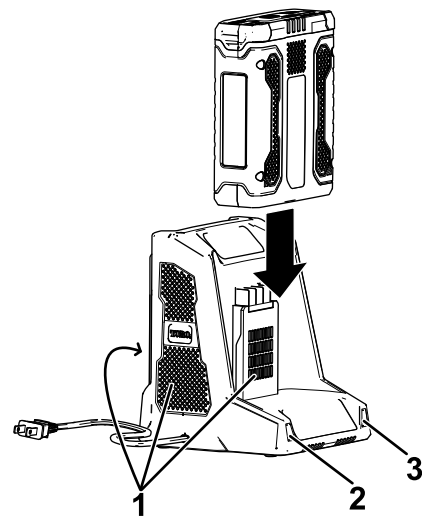

Figure 11
4. Slide the battery pack into the charger until it is fully seated (Figure 11).